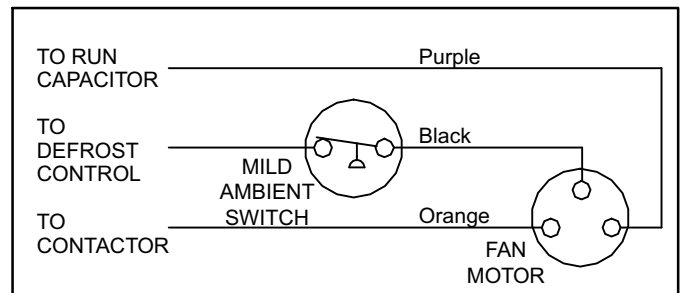

Figure 2. Typical Wiring Connections
4. Connect wire terminals of mild weather pressure switch as shown in typical wiring connections diagram (figure 2).